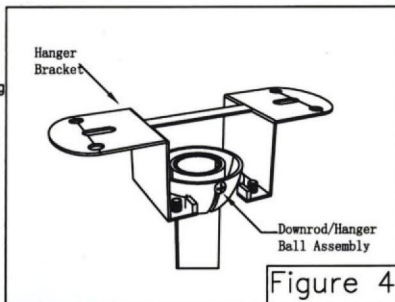

Figure 4
- Thread downrod into the downrod support on top of the motor. Install the clevis pin by aligning the hole in the downrod support with holes in the downrod. Secure clevis pin with hairpin clip. Tighten the two setscrews with in the downrod support. (Figure 4)
- After connections have been made, turn leads upward and carefully push leads into the outlet box, with the white and green leads to one side of the box and the black leads to the other side. (Figure 4)
Carefully lift the fan and seat the downrod/hanger ball assembly onto the hanger bracket that was just attached to the outlet box. Be sure the groove in the ball is lined up with tab on the hanger bracket. (Figure 4)This fan is intended for standard and angled mounting options only. Close mount and flush mount options are not available. For angled ceilings,note the angle can be no more than 16°